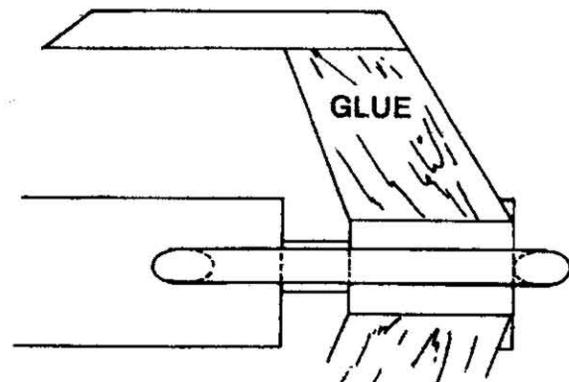

Fig. 20
- O Lay a line of (white) glue along the "tip" edge of the Cruiser Vehicle Rudder. Stick the Ion Cannon Tube to the Rudder Tip, as Shown in Fig. 20.